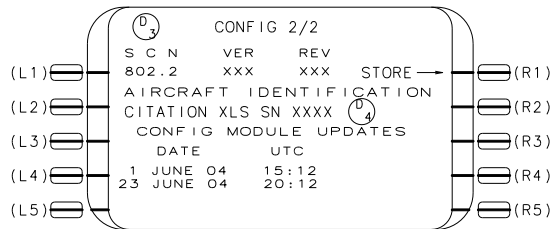

FIG. 2
21. WITH THE FIRST CONFIGURATION PAGE SHOWING, PRESS **ENTER** TO SHOW CONFIGURATION PAGE 2. SEE FIGURE 2. PRESS "SCN" (L1). FILL IN SCN OF THE UNIVERSAL FMS "802.2". USE (+/-) TO ENTER ".". PRESS **ENTER** PRESS "AIRCRAFT IDENTIFICATION" (L2). FILL IN AIRCRAFT IDENTIFICATION UP TO 24 CHARACTERS INCLUDING SPACES. USE (+/-) TO ENTER A SPACE. THE FOLLOWING FORMAT SHOULD BE FOLLOWED FOR AIRCRAFT ID: